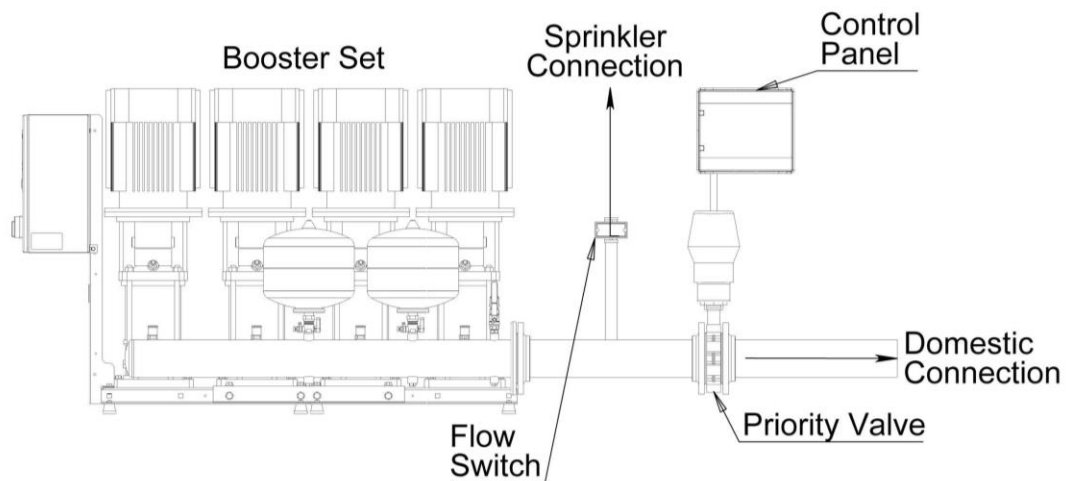

Fig. 1.1 Typical Pipework arrangement
- 1.3.2.4** It is highly recommended that the valve is installed with actuator vertically above the valve as shown in Fig 1.1, horizontal installation is possible, vertically downwards is actively discouraged.